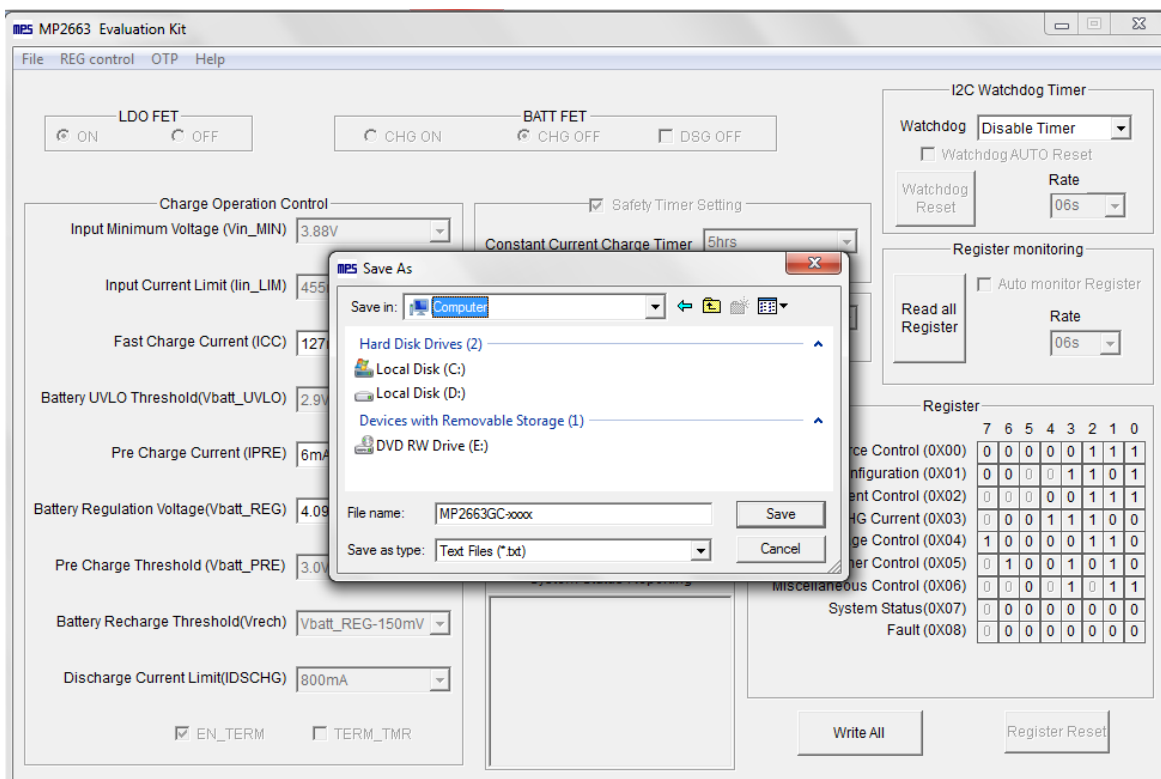

Figure 11: Various Export Locations Available
6. Find a location for the exported file and click “Save”. Your configurations will be saved in a .txt file (see Figure 11).